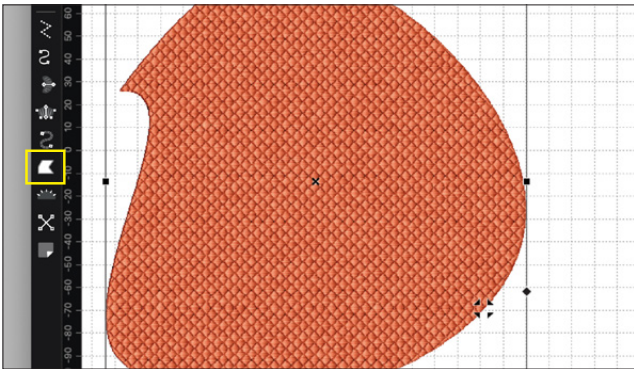

Figure 58
1. Select complex fill. **See Figure 58.**